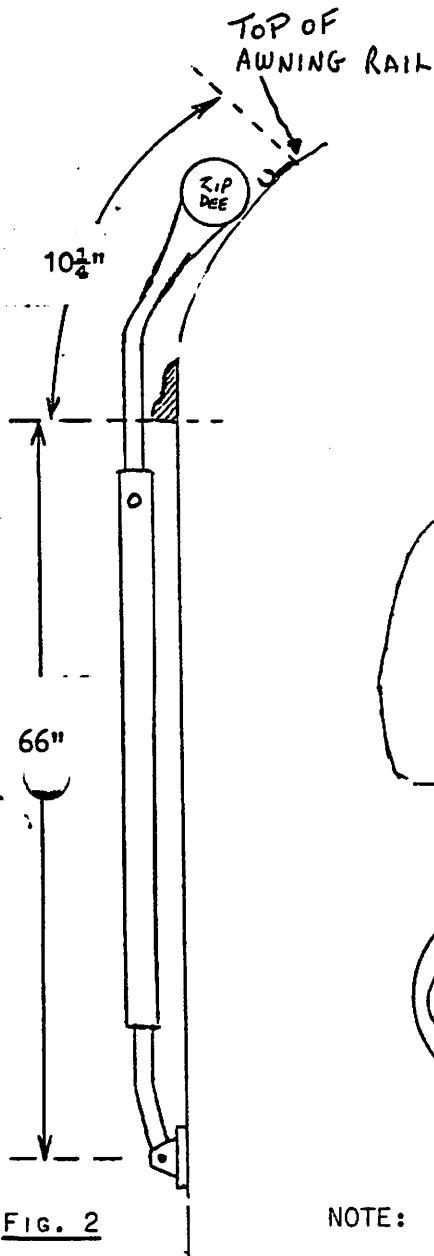

FIG. 2
STEP 2. STRIKE LEVEL CHALK LINE AND MOUNT AWNING RAIL AS SHOWN IN FIG. 2, USING THREAD CUTTING SCREWS PROVIDED. SEAL EACH HOLE AND TOP OF RAIL WITH SILICONE RUBBER CEMENT TO PREVENT LEAKS.
STEP. 3 DETERMINE HINGE HEIGHT AS SHOWN IN FIG. 2 & 3. MOUNT HINGES ON RIBS (OR PLUMB LINE).